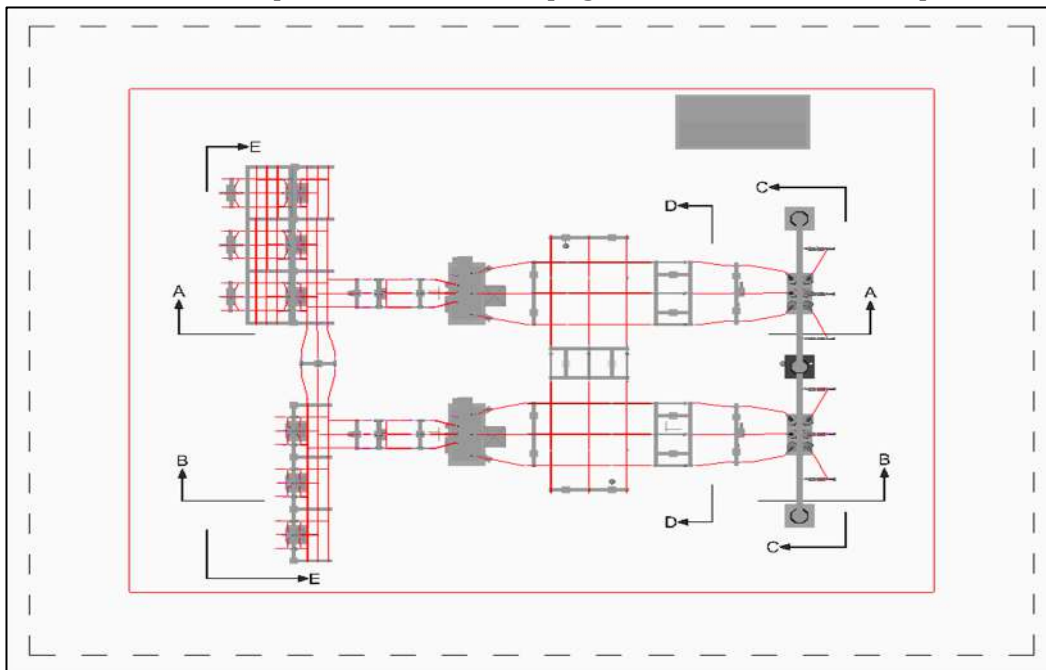

Figure 32 - New Paper Space Layout
By default, new drawings open in Model Space and to this point all of our work has been accomplished in Model Space. In a new drawing, at the lower left corner of the drawing area just above the command line are, by default, three tabs – Model, Layout1 and Layout2. Clicking either of the Layout tabs will open a default Paper Space layout as shown in Figure 32.
To create a **Paper Space** drawing of Elevation BB, click on Layout1. This will open the Paper Space layout in the default format as shown in Figure 32. By default, an 8½ x 11 page is displayed in white with a single Viewport (the solid rectangle). The Viewport shows the drawing Model Space zoomed to the extents of the Viewport. A dashed line, if present, just inside the sheet shows the printer limits of the page based on the selected printer.
1. Select the **Layout2** tab. It should appear something like Figure 32. This time do not erase the Viewport.